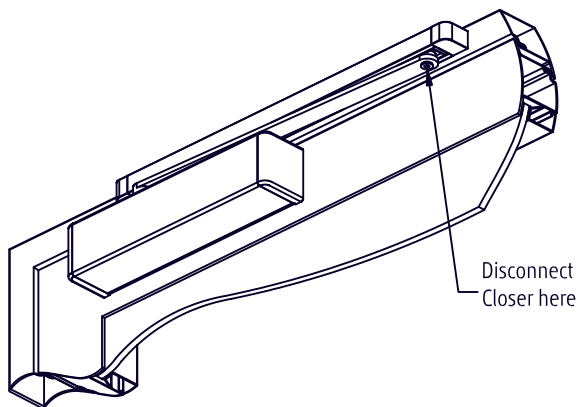

Figure 9 - Disconnect Closer (Surface Mounted Shown)
- Disconnect the closer arm from the top of the door leaf (Figure 9).
- Reconnect the closer arm at the top of the door leaf (Figure 9).